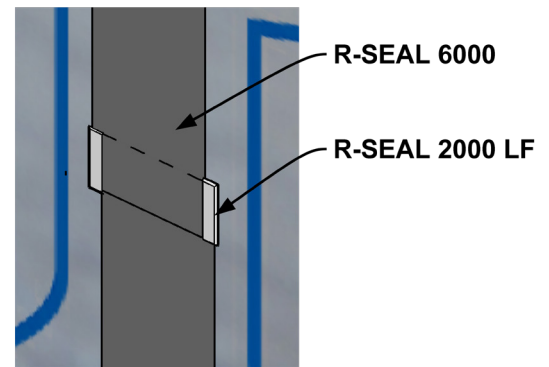

Figure 11
G. **Lapping:** When two layers of R-SEAL 6000 join, overlap a minimum of 3" and apply R-SEAL 2000 LF along both edges where the overlap occurs. **Reference Figure 11.**